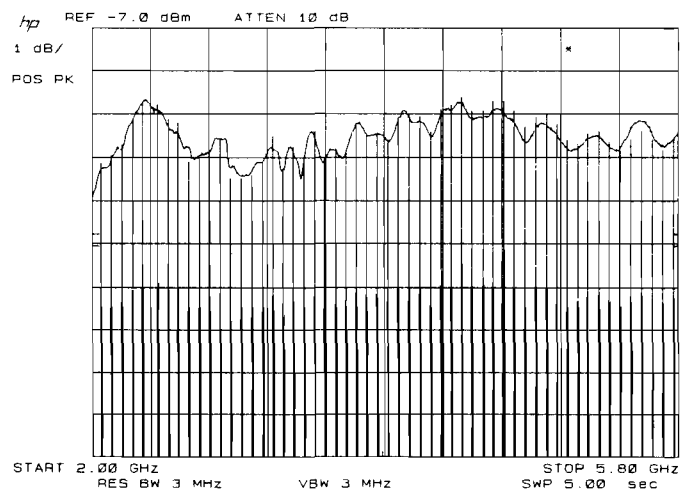

Figure 3-96.
78. Press **[SWEEP]** **[SINGLE]** on the spectrum analyzer and wait for the sweep to complete (150 seconds) and the SWEEP LED to turn off. As the spectrum analyzer tunes from 2.0 GHz to 5.8 GHz, the spectrum analyzer frequency response should be displayed as TRACE B, as shown in Figure 3-96.